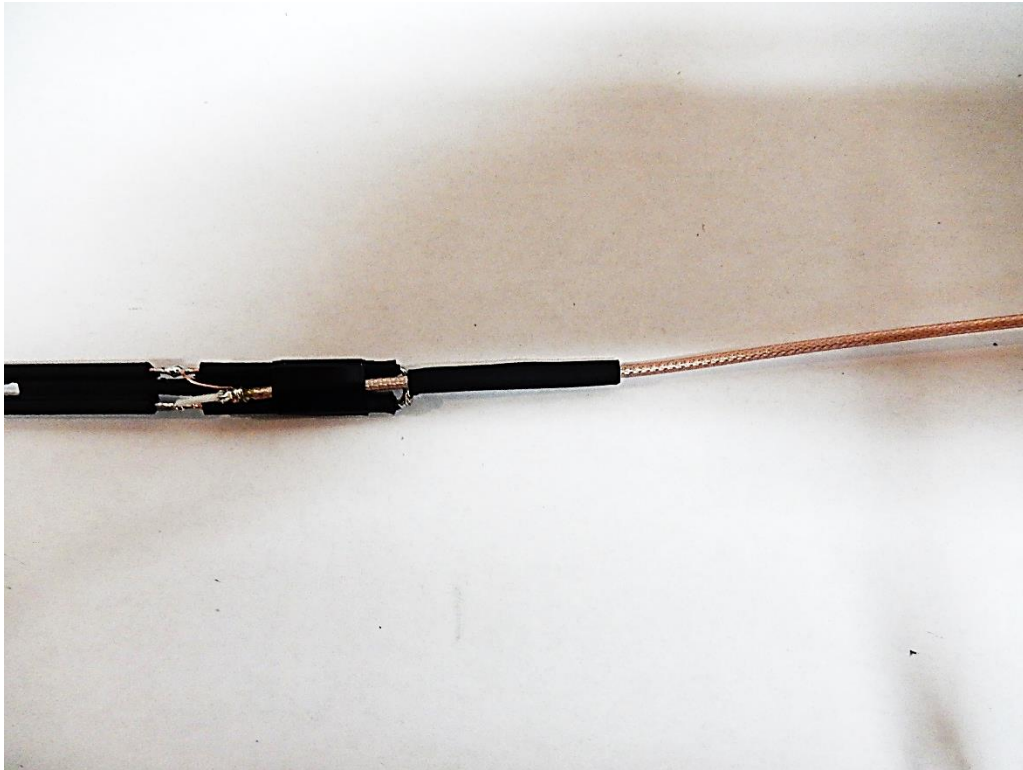

Figure 16
16. Now slide the 0.25" 4 cm piece of heat shrink as close as possible to the end of the twin lead and shrink it down to the coax. (fig. 16)